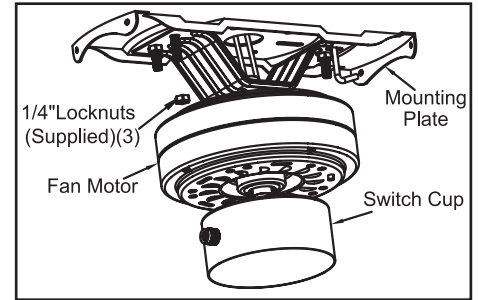
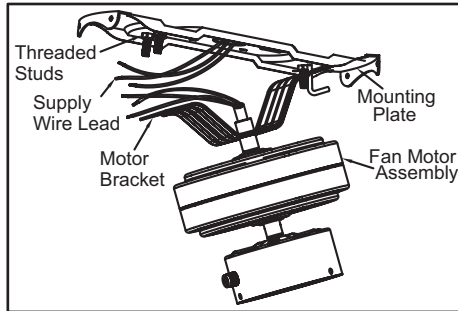

Figure 6
Figure 5
2. Carefully lift the fan motor assembly and engage the slot in the motor bracket with the hook on the mounting plate so that it is securely suspended (Figure 5). Then connect the wiring to your fan according to the section "Making the Electrical Connections".
3. Once wiring is completed, lift the motor bracket so that the threaded studs on the mounting plate protrude through the slots in the motor bracket (Figure 5). Securely tighten the three 1/4" locknuts (supplied) onto the threaded studs, then try to shake the motor bracket to ensure that the assembly is tight (Figure 6).